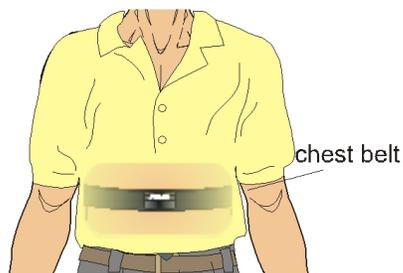

Figure 2
- Secure the Exercise Heart Rate Monitor against the skin directly, around the subject's chest as shown in Figure 2. Verify that the Polar Logo is located in the center of the chest in an upright position. Attach the hook to the other end of the strap to secure the sensor and adjust the elastic strap to ensure a tight fit.